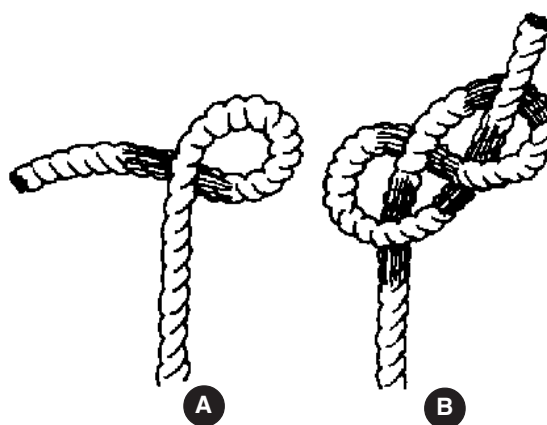

Figure 14.3 Figure of eight (
2. Study Figure 14.3 to complete this knot.